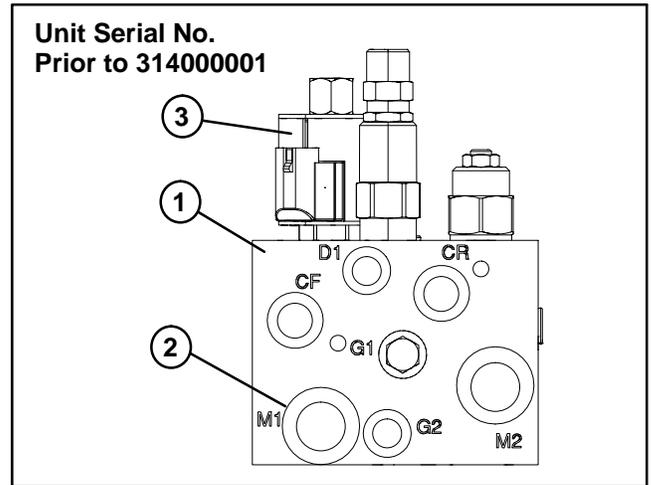

Figure 34
3. Disconnect the hose from hydraulic fitting at manifold port (M1) (Fig. 34 and 35).